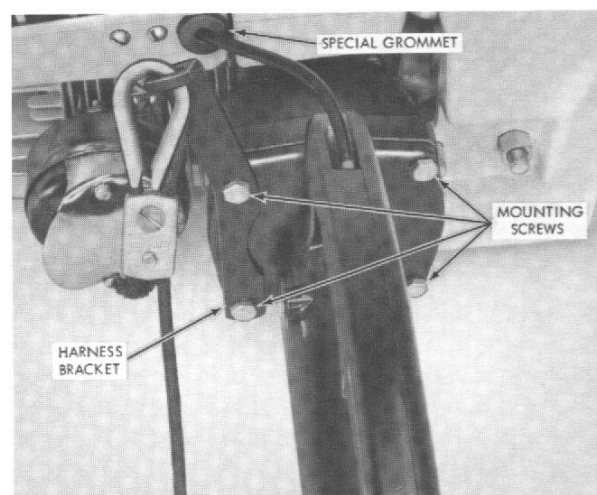

Figure 9. Installation of Pruner
9. Mount the Pruner on the Accessory Adapter with four 1/4-20 x 7/8-inch long screws (P/N 100374) and four No. 4 lockwashers (P/N 100153). Before attaching the two screws on the muffler side of the Pruner, add the Harness Bracket (P/N 57221A). See Figure 9.